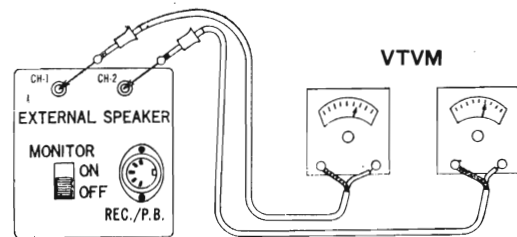

Fig. 17
b) Place the monitor switch (MONITOR) of the set to ON position, and turn the volume control knob (VOLUME: CH-1 or CH-2) completely to the right (clockwise) to gain maximum volume. Then connect the V.T.V.M. (vacuum tube voltmeter) to the speaker terminal as shown in Fig. 17. Adjust the output of the low-frequency oscillator so that the